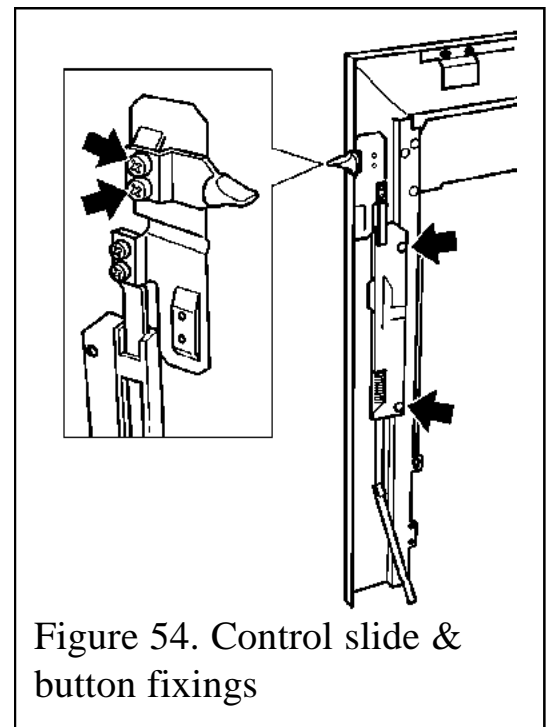

Figure 54. Control slide & button fixings
3. Detach the slide button by removing two screws (See figure 54).